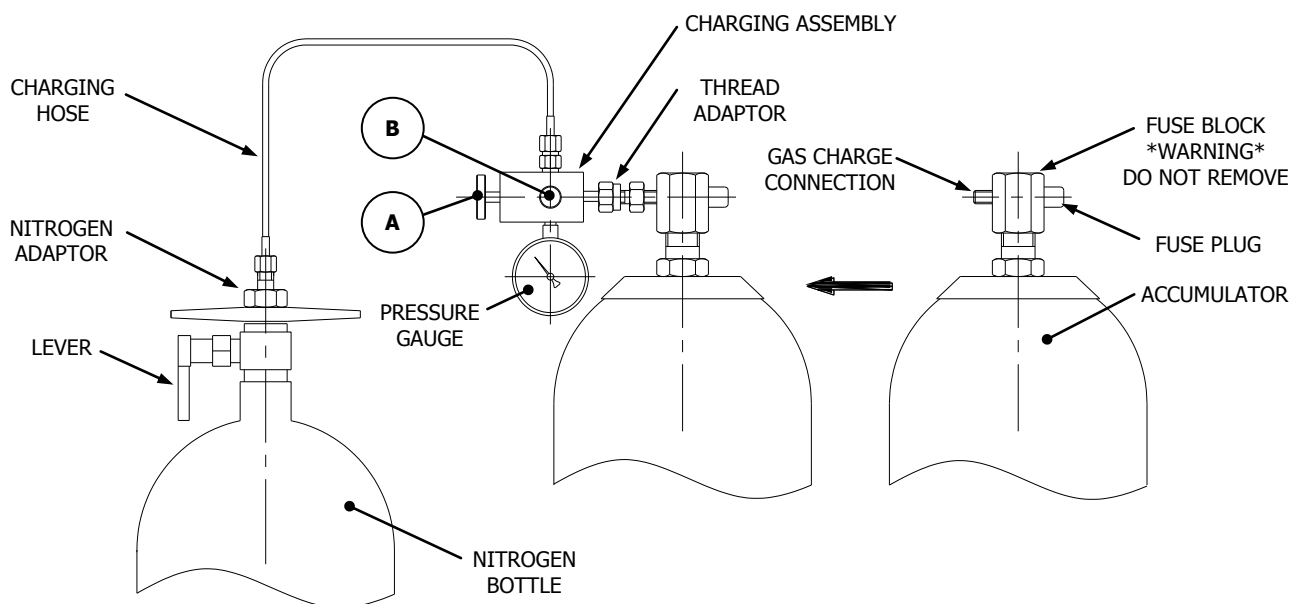

Figure 8.17: Accumulator Pre-Charge Setup
- Remove the sealing cap from the gas charge connection. Refer to figure 8.17: Accumulator Pre-Charge Setup.